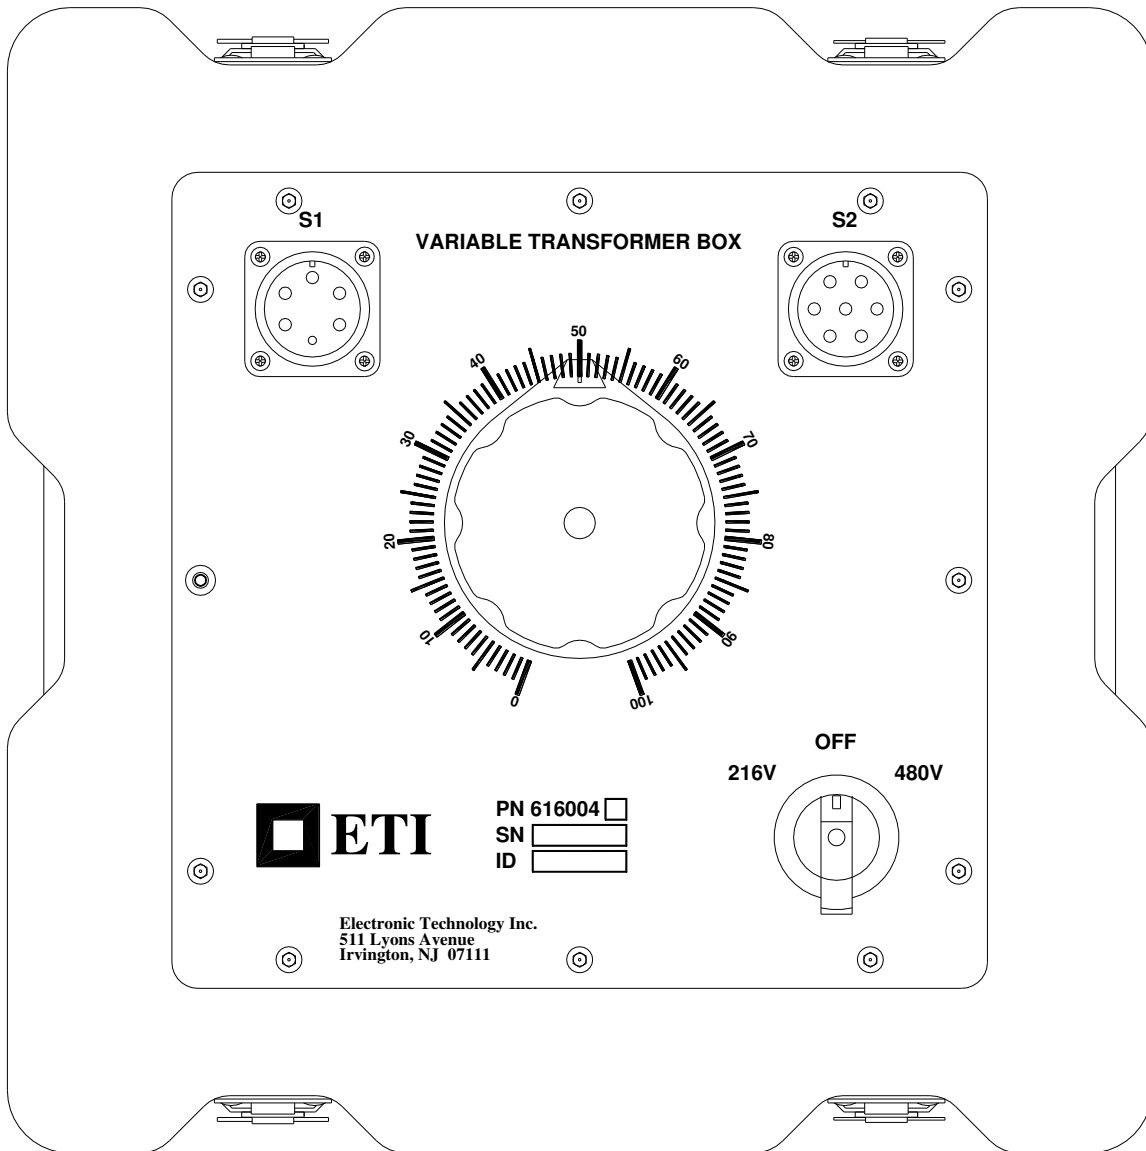

Figure 1: ETI Variable Transformer Box Faceplate
- A. The Variac Box is a portable unit provided with a removable cover in which associated cables are stored. Figure 1 shows the main panel and the location of the various controls and operating parts.